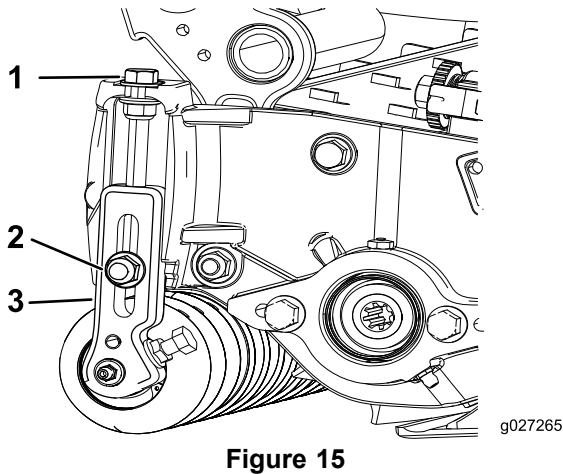

Figure 15
1. Loosen locknuts securing height-of-cut brackets to cutting-unit side plates (Figure 15).